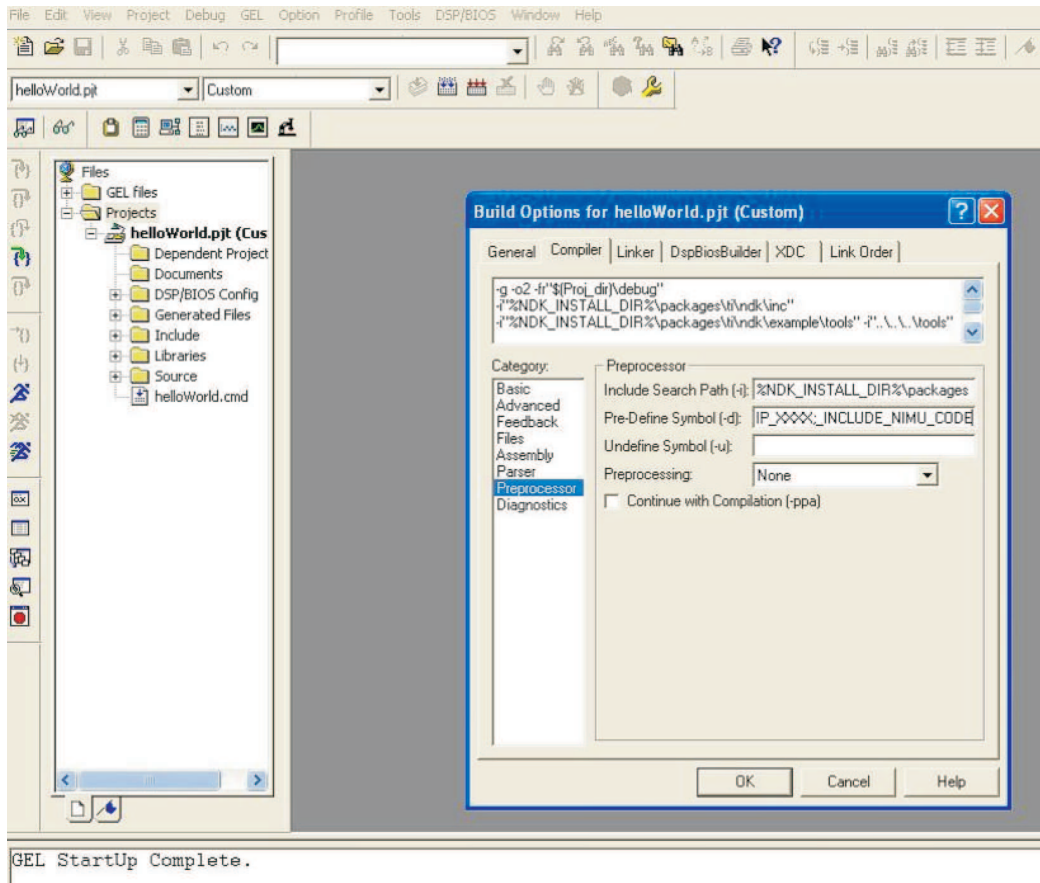

Figure 5. Enabling NIMU for Build Through Code Composer Studio
2. Click on *Preprocessor* in the *Category* box of the *Compiler* tab on the Build Options dialog box that appears as shown in Figure 5:
- c. Add the following constant at the end and click on *OK* button to apply the settings in *Pre-Define Symbol (-d)* box as shown in Figure 5.